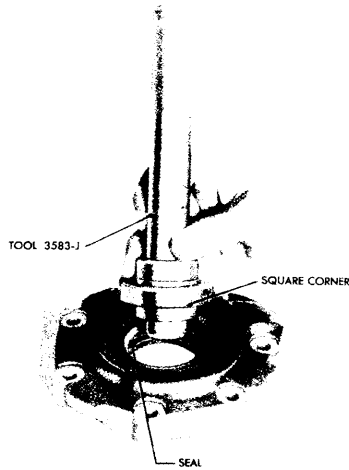
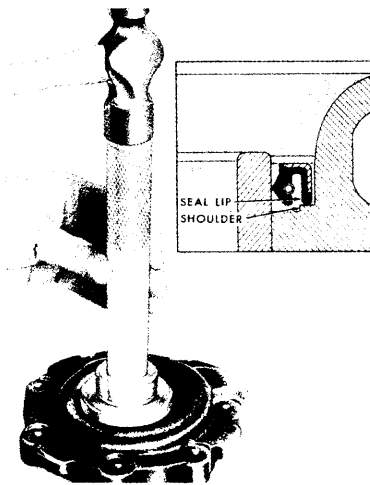

FIG. 30—Preparation for Installing Rotor Shaft Seals G1209-A
FIG. 31—Installing Rotor Shaft Seal G1210
- a. Support the cover on wood blocks (Fig. 30) to provide tool clearance. Use clean blocks that will not nick or damage the inner face of the cover.
- b. Start the seal (metal shell upward) squarely into the bore with finger pressure. Place the adapter on the driver with the square corner of the adapter toward the seal (Fig. 30). Drive the seal into the cover, as shown in Fig. 31 until it bottoms.